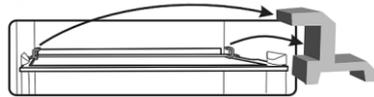

Fig. 3
9. Remove all red elements from shelves (Fig. 3); they are needed for transportation purposes only.